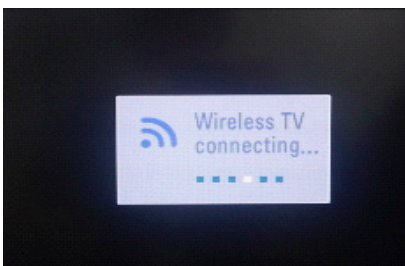

Fig. 3 Connect the Dongle
Step 2) At OSD of SET, check the message like Fig.3